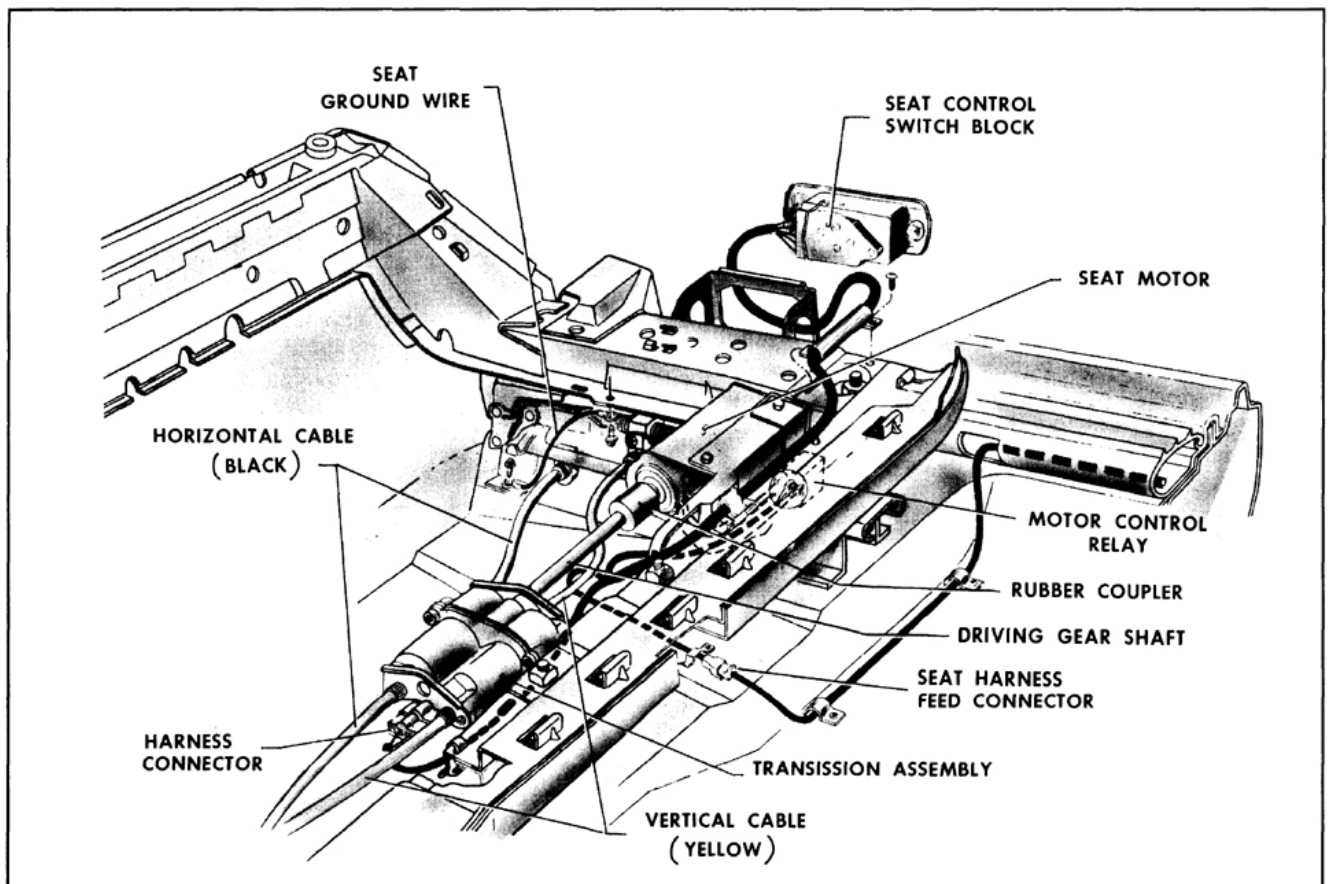

Fig. 16-383 Four-Way Tilt - Full Width
The seat adjusters are actuated by a 12-volt, reversible, shunt wound motor with a built-in circuit breaker. The motor is installed at the left side of the seat assembly. (Fig. 16-383) The seat motor is energized by a toggle-type control switch installed in the left seat side panel.
3. Remove screws securing horizontal and vertical cable end plate on side of transmission from which cables are being removed and remove cables from seat assembly. (Fig. 16-383)
2. Disconnect wire harness connector from transmission. (Fig. 16-383)